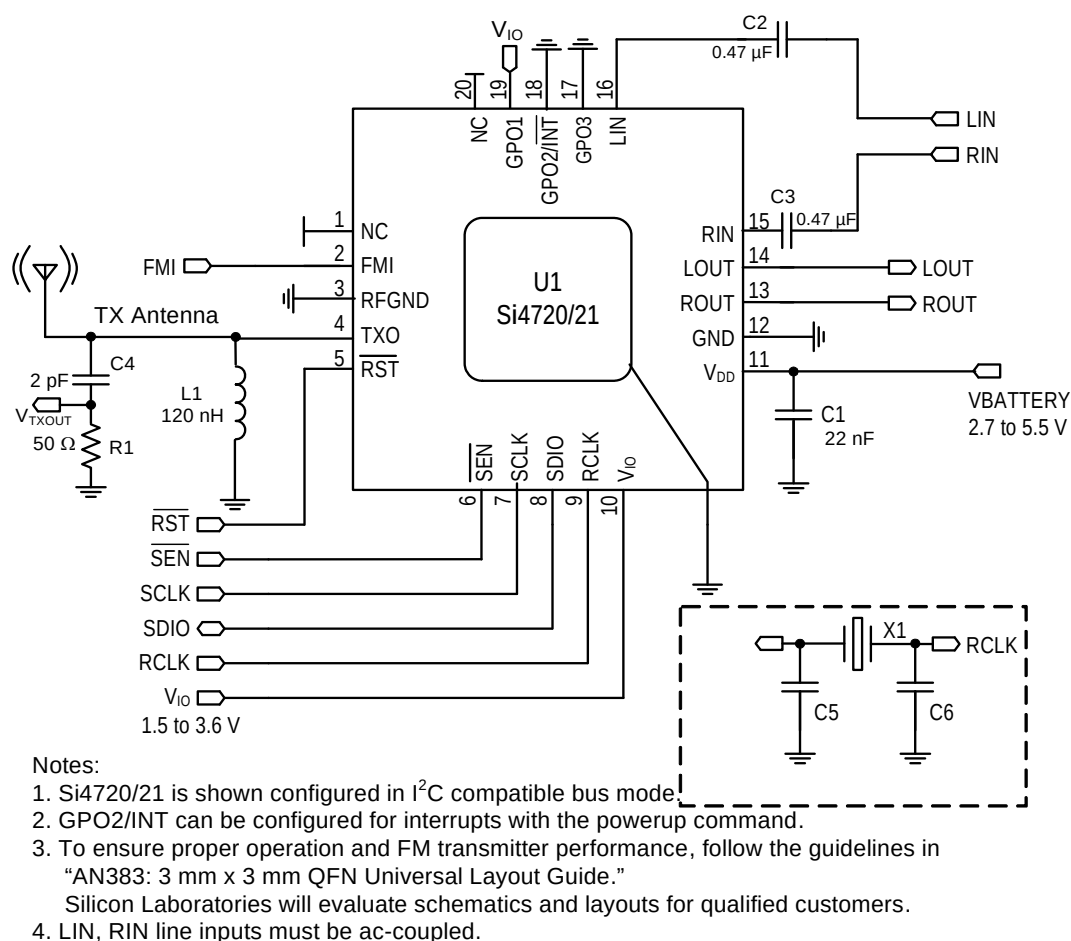

Figure 10. Test Circuit Schematic
1. FM transmitter performance specifications are subject to adherence to Silicon Laboratories guidelines in “AN383: Universal Antenna Selection and Layout Guidelines.” Silicon Laboratories will evaluate schematics and layouts for qualified customers. Tested with test schematic ($L = 120 \text{ nH}$, $Q \geq 30$) shown in Figure 10 on page 19.
1. FM transmitter performance specifications are subject to adherence to Silicon Laboratories guidelines in "AN383: Universal Antenna Selection and Layout Guidelines." Silicon Laboratories will evaluate schematics and layouts for qualified customers. Tested with test schematic (L = 120 nH, Q $\geq$ 30) shown in Figure 10 on page 19.